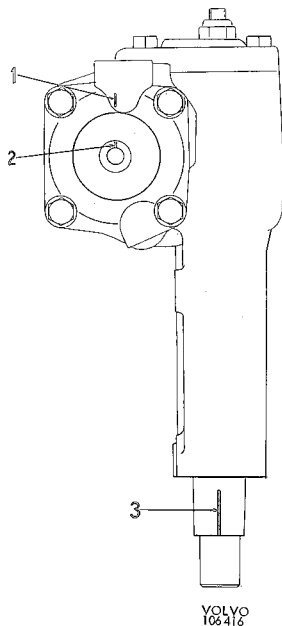

Fig. 6-65. Steering gear housing in middle position
1. Place the steering gear housing in the middle position. A slight increase in resistance should then be felt and the position of the pitman arm shaft lands should be as in Fig. 6-65 and the line-up marks on the steering spindle and housing should coincide.